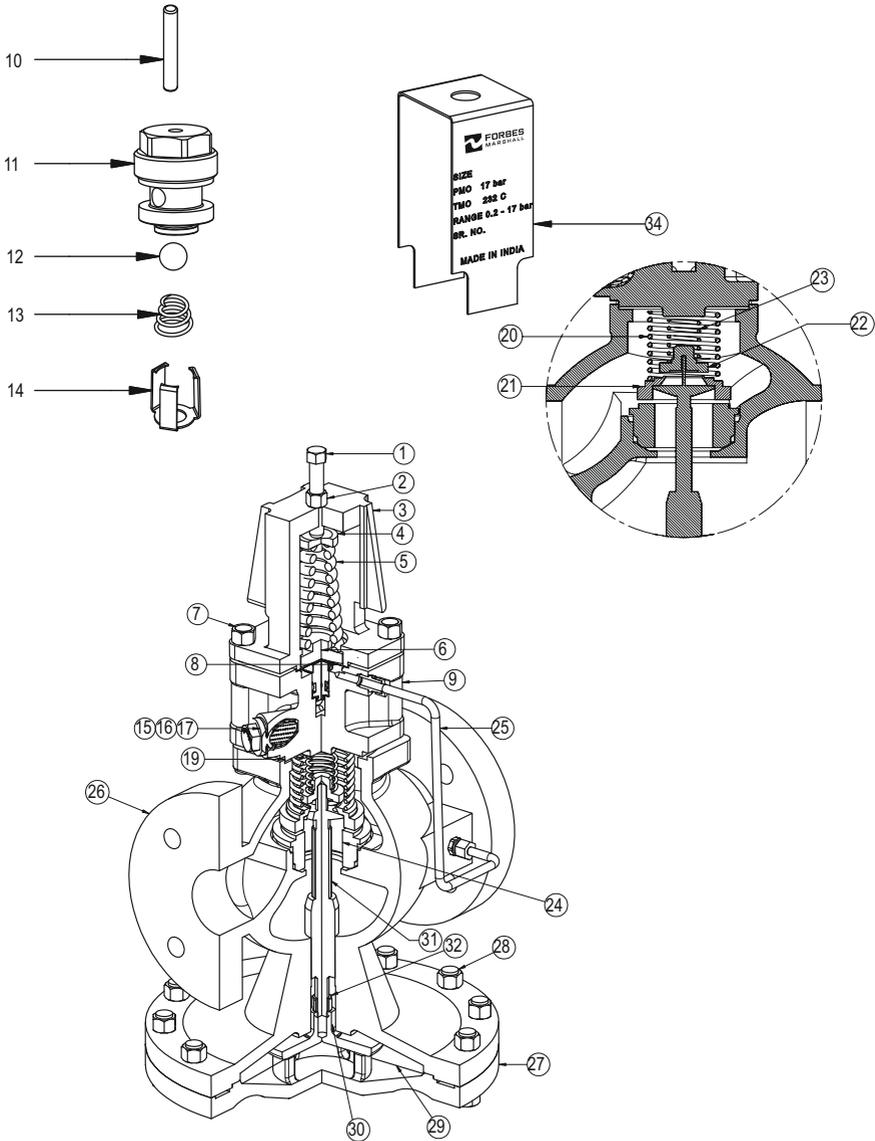

Figure 1: Double Seat Pressure Reducing Valve.
4. Product Working Principle: (Refer to Figure 1)